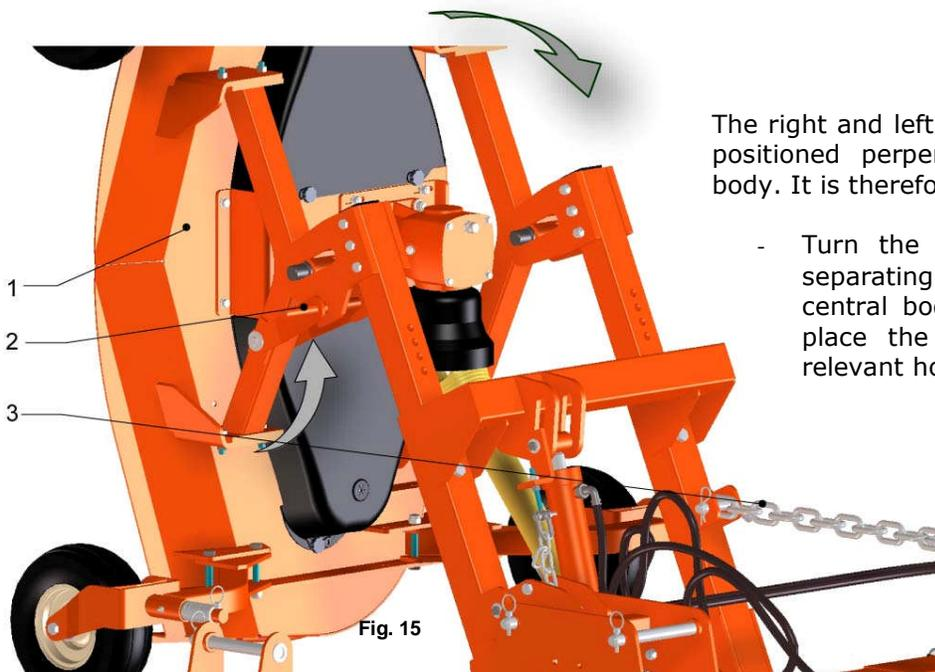

Fig. 15
- Turn the lateral mower deck **1** separating its lower part from the central body, until it is possible to place the locking lever **2** in the relevant housing (fig. 15).